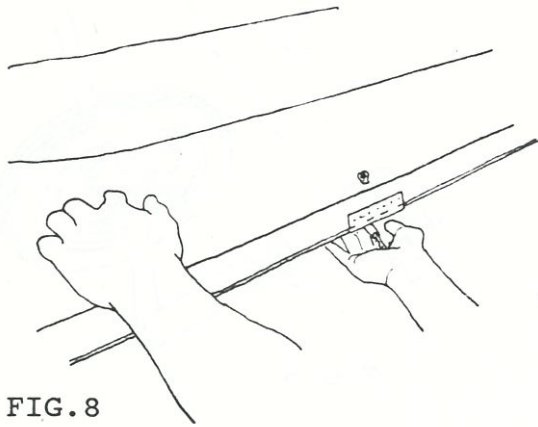
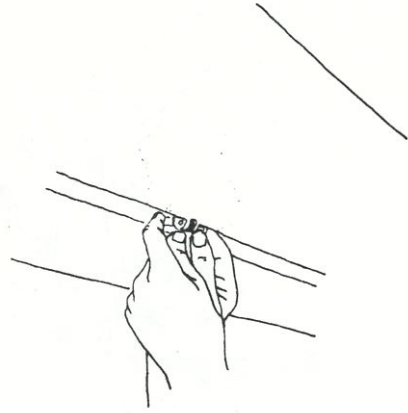

FIG. 8
FIG. 8a
8. The flap push rods are engaged in the trailing edge for storage. Push and release to hook up.(fig.8) Hook up the flaps and elevons by flipping them over and pinning to the control rod ends.(fig.8a)